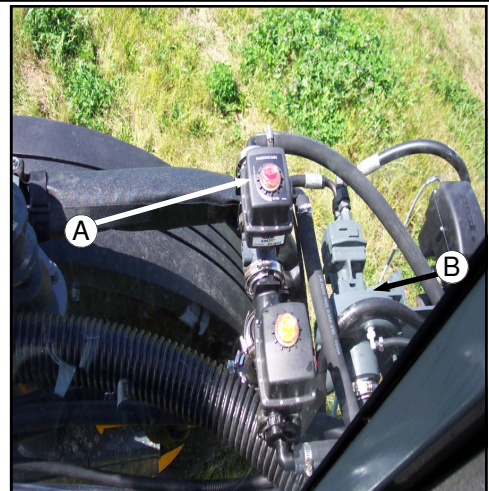
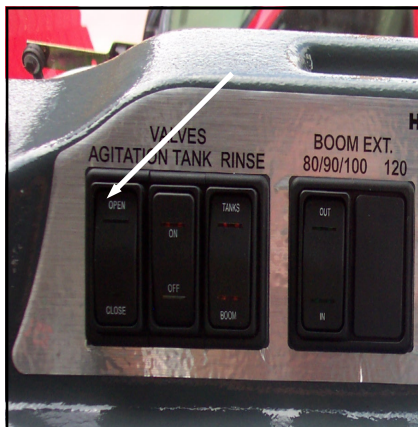

FIG. 64-3
FIG 64-4
**AGITATION**– The speed of the sparge agitation system (stainless steel tank option) or the eductor agitation system (poly tank) is controlled by a variable flow solution valve (fig. 64-3, item A) mounted on the solution pump (fig. 64-3, item B). The agitation switch (fig. 64-4) on the right hand console controls the rate of flow through the sparge system.